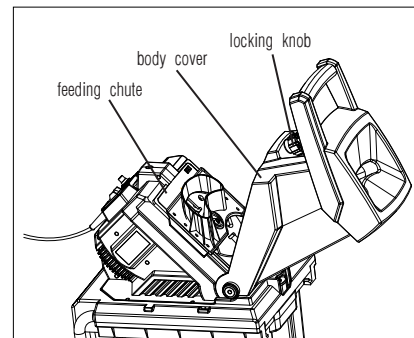

Fig. 7
3. Turn the locking knob counter-clockwise until the body cover can be opened. Lift up the body cover to expose the two blades (Fig. 7).